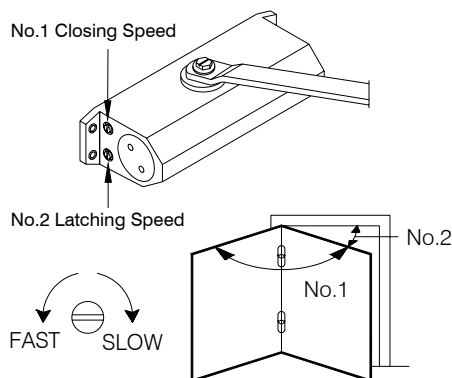

Fig. 6
7. Check for correct closing & latching speeds and adjust if necessary. (See **Fig. 6**)